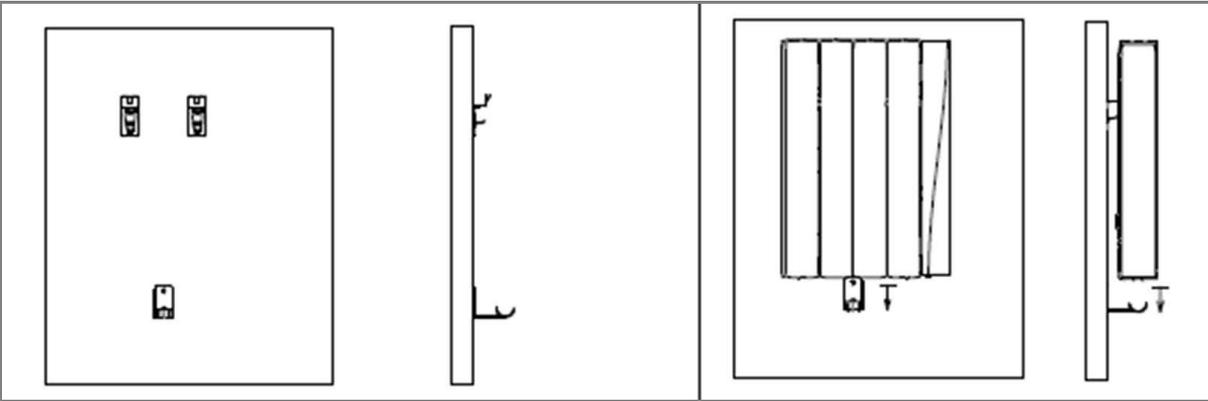

Figure 4 | Mounting radiator on wall
3. Lift up the unit and slide the struts of the upper brackets into the grooves. Then lower the unit so it locks into the lower bracket, as shown in **Figure 4**.